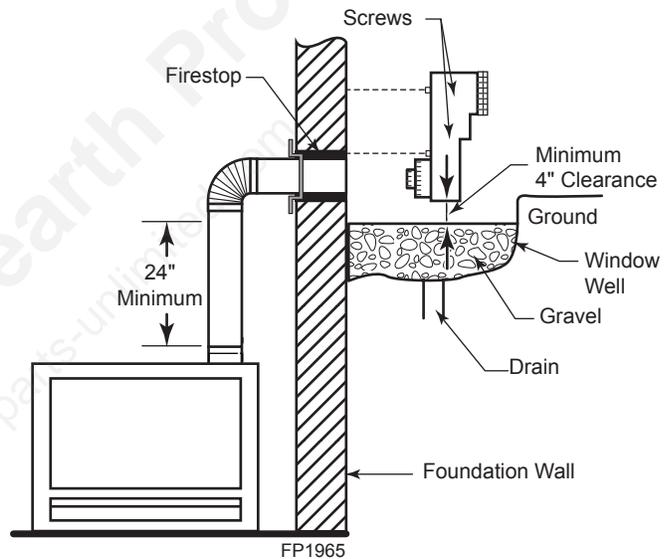

Figure 32 -
2. Remove soil to a depth of approximately 16" below base of snorkel. Install drain pipe. Install window well (not supplied). Refill hole with 12" of coarse gravel leaving a clearance of approximately 4" below snorkel. *Figure 32*
7. Level the soil so as to maintain a 4" clearance below snorkel. *Figure 32*
1. Determine the route your vertical venting will take. If ceiling joist, roof rafters or other framing will obstruct the venting system, consider an offset. Refer to Figure 32 to avoid cutting load bearing members.